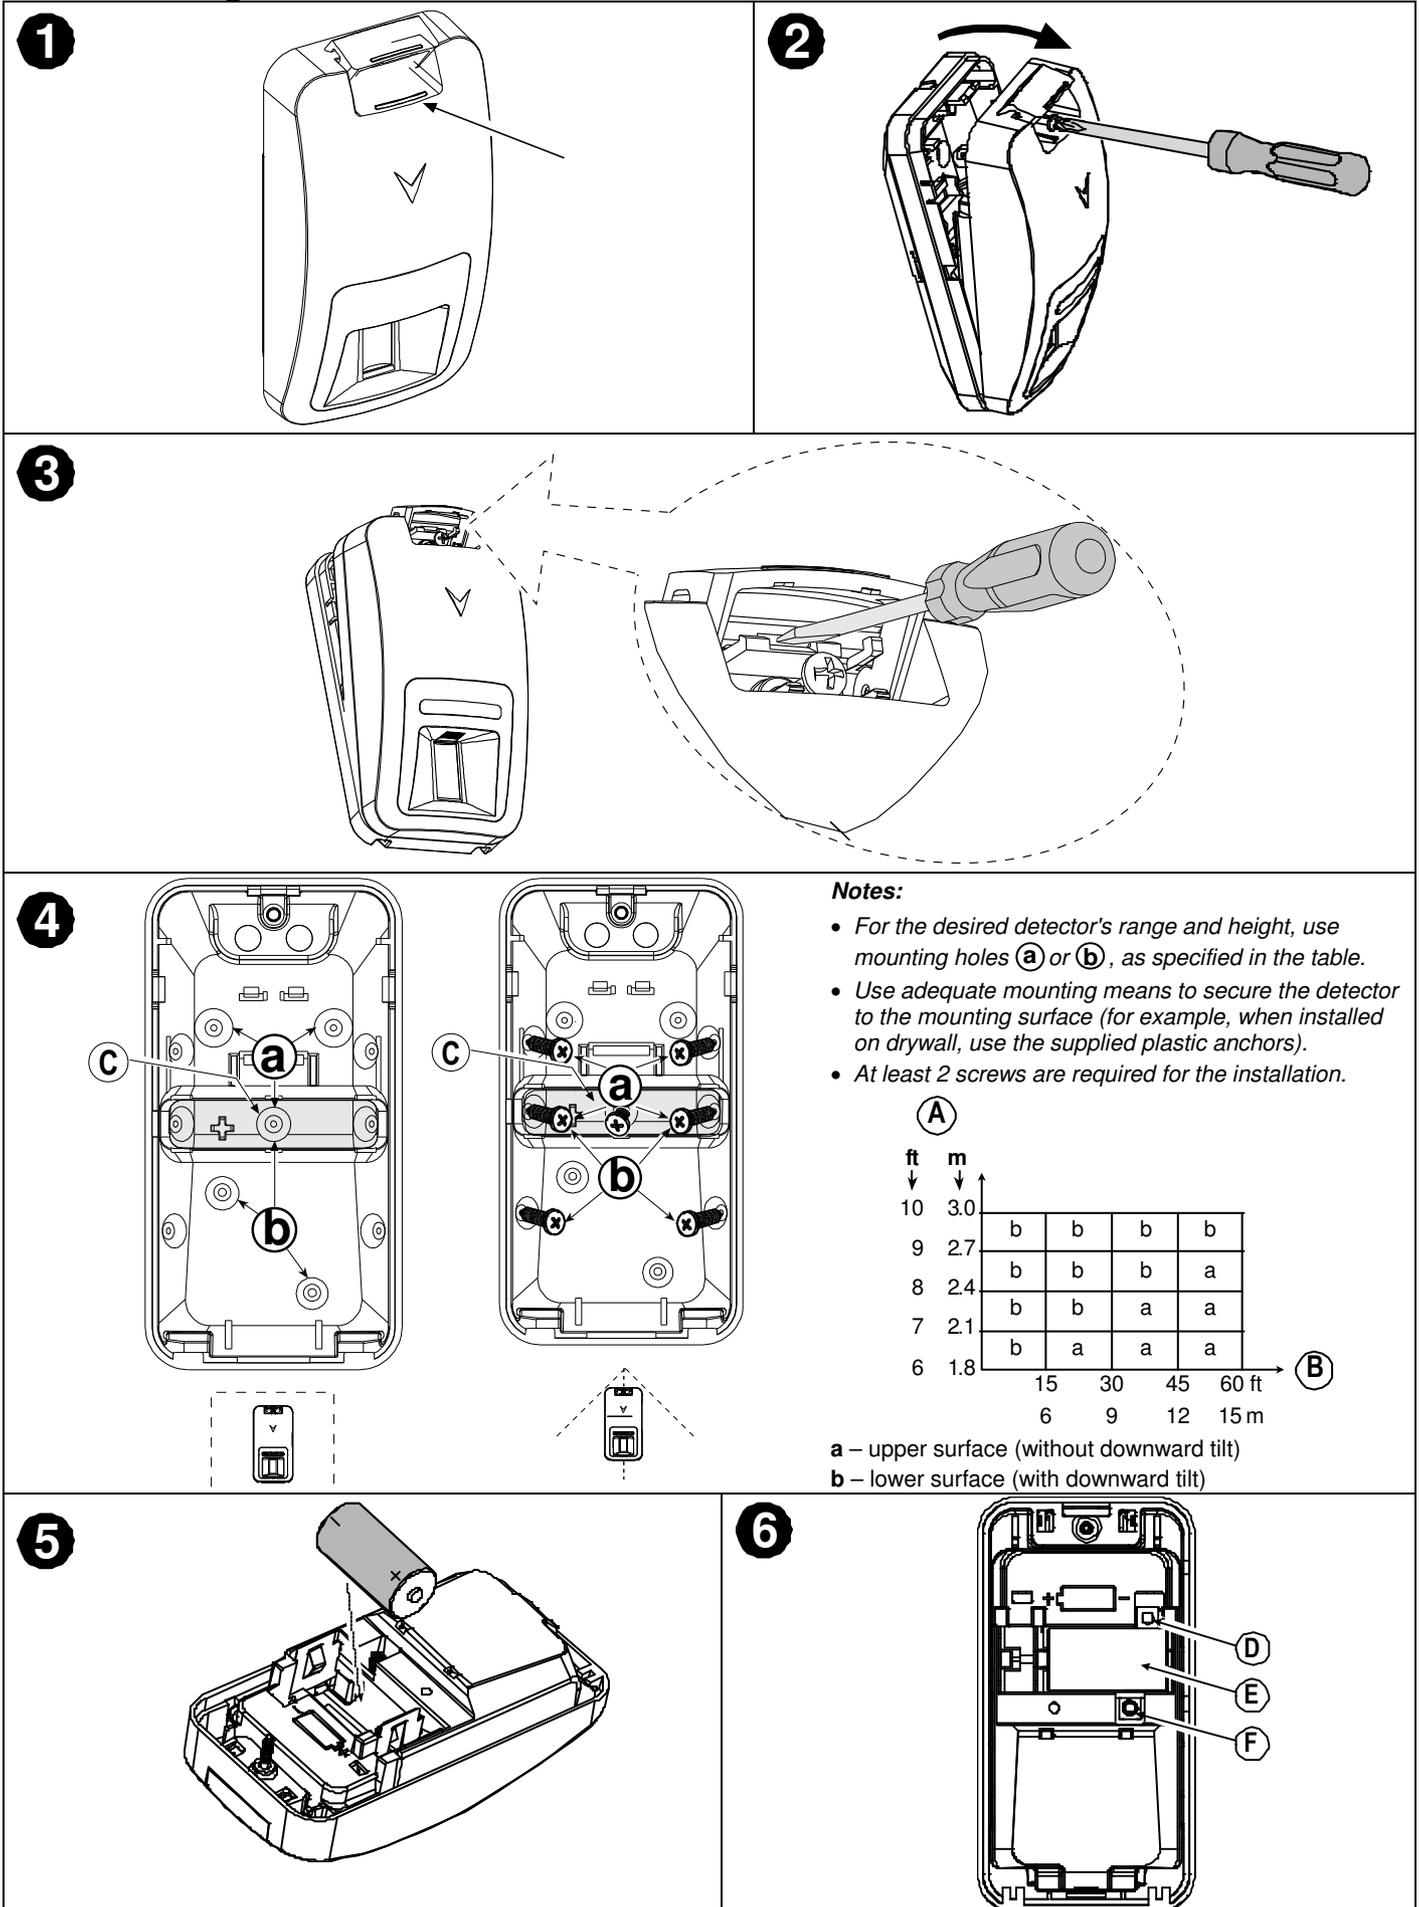

Figure 3. Mounting
1. Remove the front cover as shown in Figure 3, points 2 and 3.
2. Punch out the selected knockout in the bracket (see Figure 3, point 4).
- A. Separate the base from the cover (see Fig. 3).